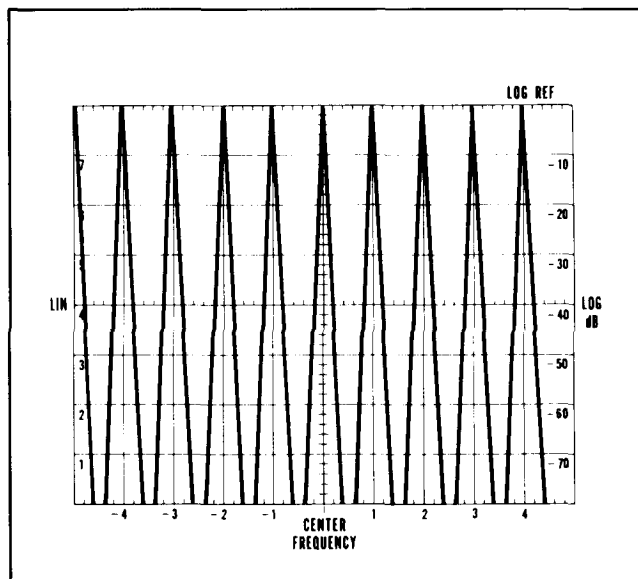

Figure 5-14. 50 MHz Bandpass Flatness Display
9. Tune FREQUENCY for display indicated in Figure 5-14 when FINE TUNE is rotated in 100 kHz steps.